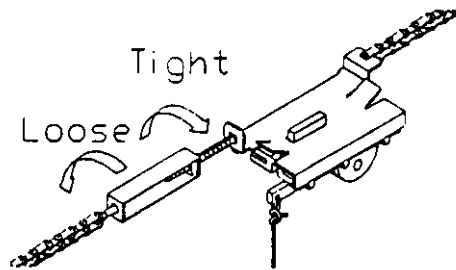

Figure 7A
Step 4. Loop the chain around the drive sprocket on top of the Power Head Unit (fig 7B) . Carefully position L-Rails on the studs and secure with nuts and washers removed in Step 1. Slowly apply tension to the chain by tightening the outer nut on the Chain Tension Bracket (fig 7A). Remove remaining tape from the L-Rail/Chain Speed Unit Assembly. Re-check chain alignment at drive sprocket and front idler